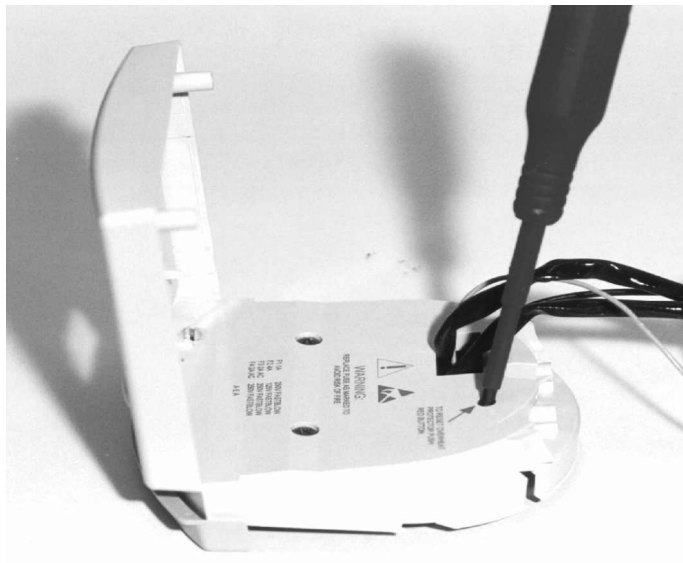

Figure 7.5 Showing location of thermal cutout
2. Check the thermal cutout on the heater plate by pushing the red button with a pen or small screwdriver - see Figure 7.5.